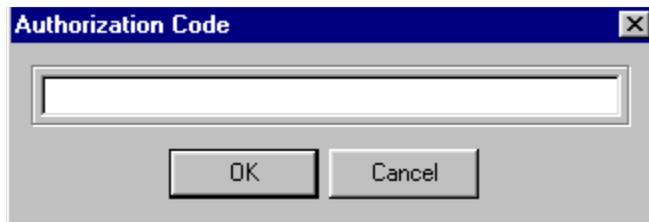

Figure 30: Authorization Code Dialog
6. When the Authorization Code dialog opens, see *Figure 30*, enter the auth code then click OK